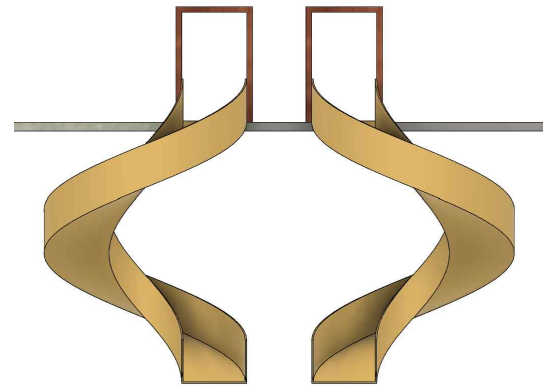
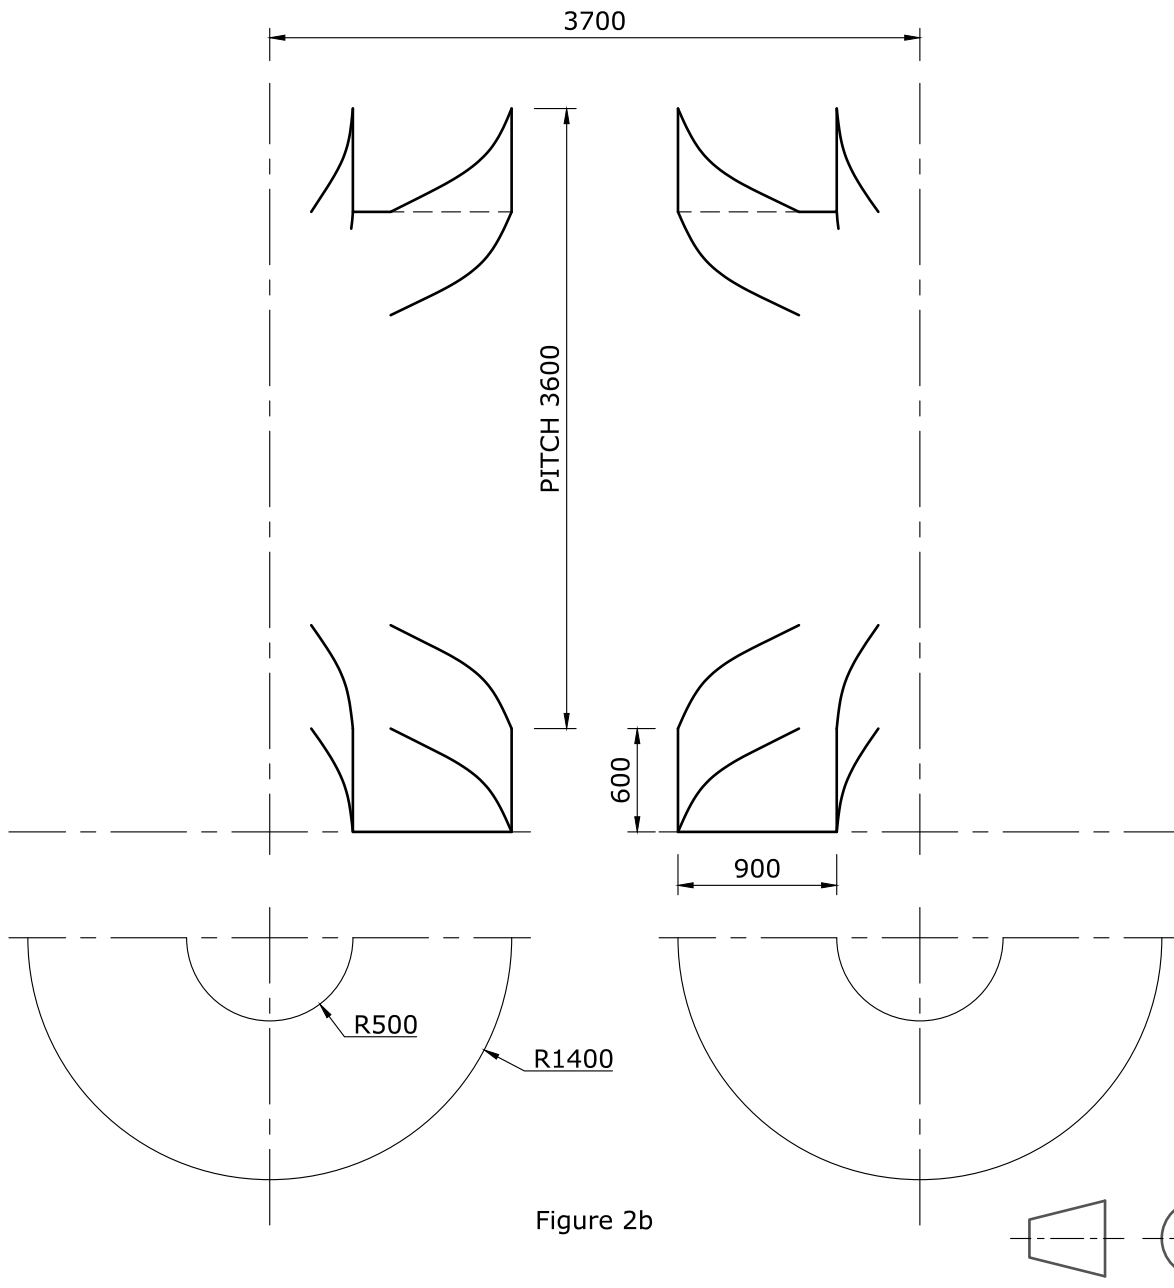

Figure 2a
Figure 2b
Figure 2a shows an illustration of two identical helical fire escape chutes which have a rectangular 'U' shape cross section. From the first floor to the ground floor the helix turns a total of 360°. Details about the cross section, the pitch, the outside diameter of the helices and the distance between their axes are given in Figure 2b.
- a. copy Figure 2b to a scale of 1:20; (2)
- b. construct one turn of both helical chutes; (12)
- c. line in the visible outlines; (4)
- d. line in the hidden detail; (1)
- e. label the right-hand and the left-hand helical chutes. (1)
Note: The dimensions in Figure 2b are in millimetres.